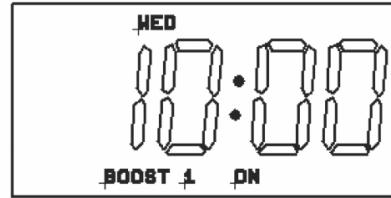

Figure B-19: One hour boost ON
1. Press '-' (boost) once in normal operating mode turns on for 1 hour period. Refer to Figure B-19.